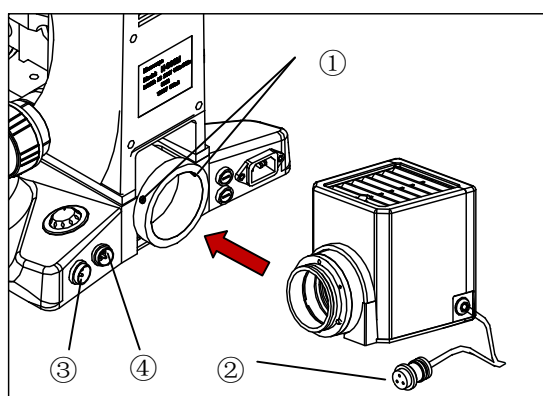

Fig.8
1. Push the lamp house into the illumination kits (Fig. 8) gently until they are against each other, turn to a proper position and then screw down the bolt① to fix it.
2. Insert the power plug② into the power jack of the microscope③/④, and screw down the bolt to fix it.
- For transmitted light illumination, the power jack③ is used. For reflected light illumination, the power jack④ is used.